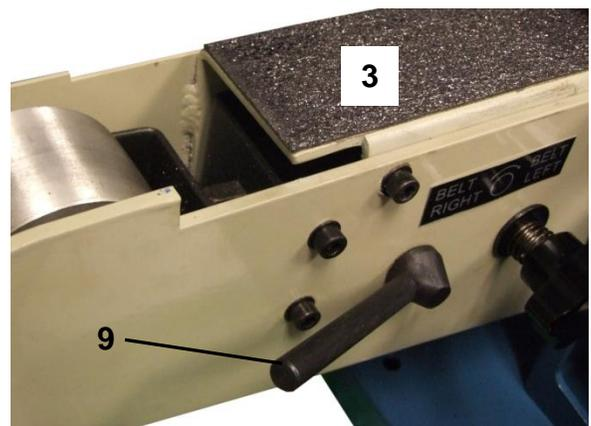

figure 5
2. Remove the working table assembly (11).
3. Peel off the used disc which utilizes a hook and loop method of attachment as shown in (fig. 5).
5. Replace the working table assembly (11).